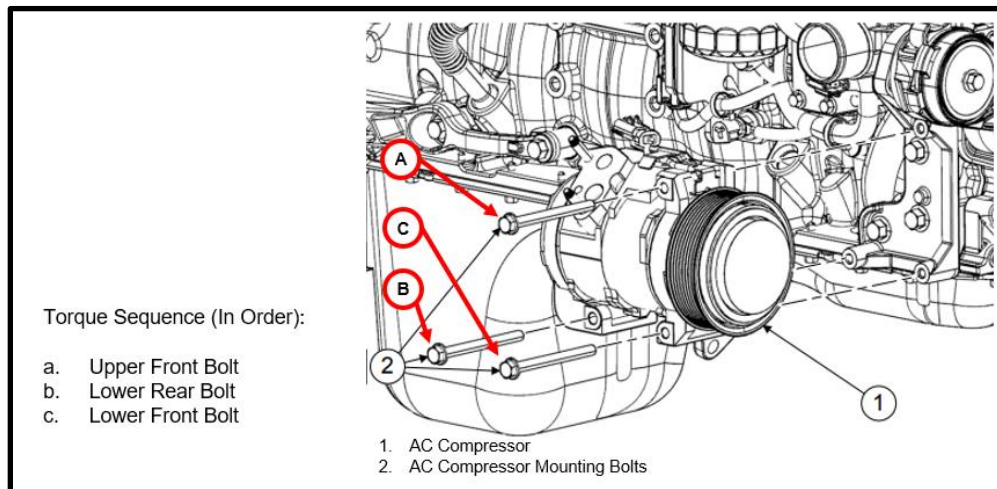

Figure 1.
6. While holding the compressor rearward against the mounting bolts, torque the bolts to 21 ft lbs. (28 nm) in the following sequence. Please see (**Figure 1.**)